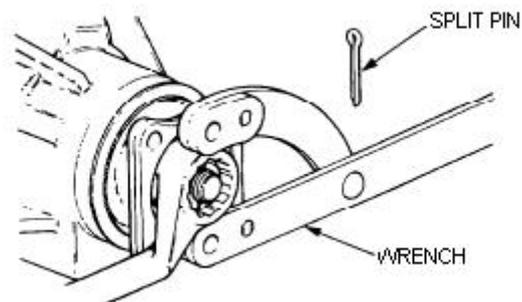

Figure 230 Removing The Coupling Flange Nut – Early Version
- (a) Remove and discard the split pin securing the coupling flange nut. Using the wrench (Table 3, Serial 47) to prevent the pinion flange from rotating, remove the slotted nut and flat washer (Figure 230).